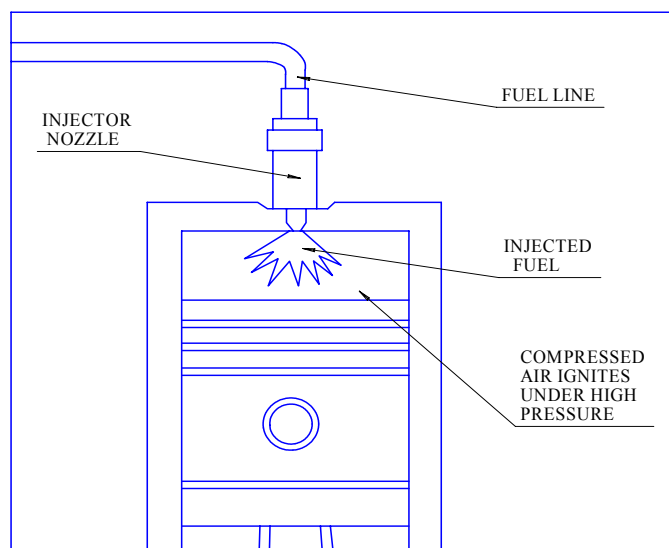

Fig.3.2. The diesel engine compresses the air before the fuel is introduced into the combustion chamber.
- A diesel engine compresses the air before the fuel is introduced (Fig. 3.2). In a gasoline engine the fuel is picked up by the air as it passes through the carburetor so that the vaporized fuel is compressed along with the air;